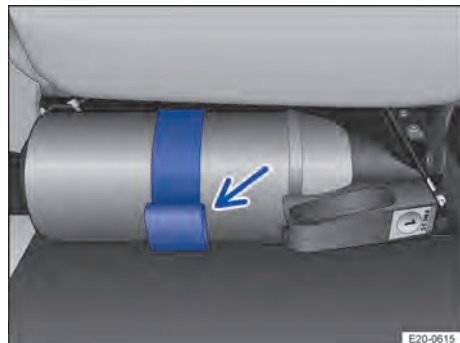

Fig. 46 Under the front passenger seat: Bracket with fire extinguisher (illustration).
1. Open the tab on the bracket and remove the fire extinguisher → Fig. 46 (arrow).